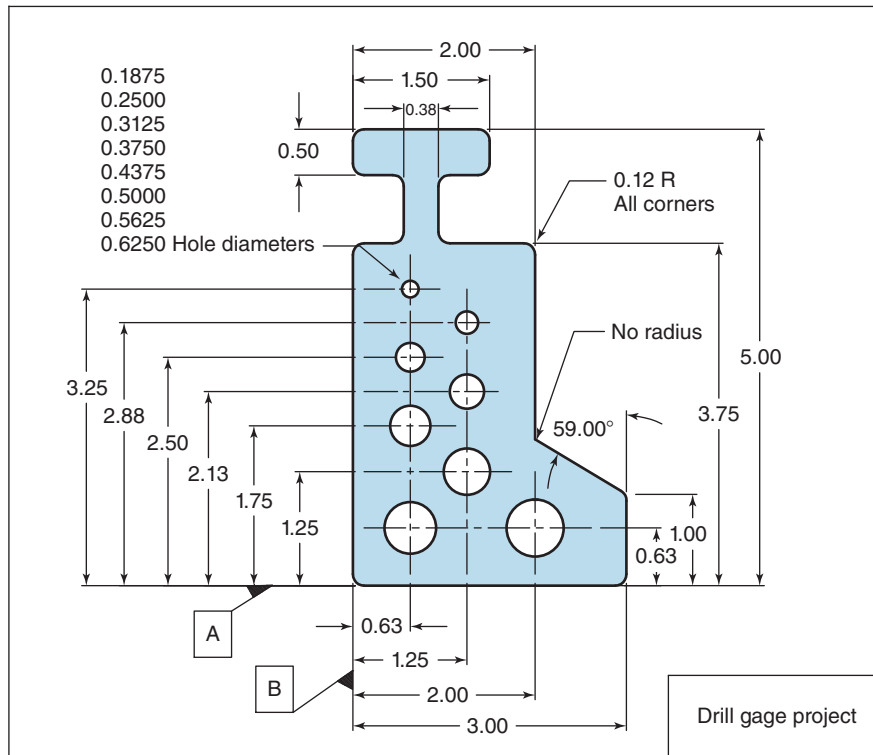

Figure 2-6
3. Using Fig. 2-6, the drill gage, what is the vertical distance between the top left, $\frac{3}{16}$ -in. and the $\frac{9}{16}$ -in.